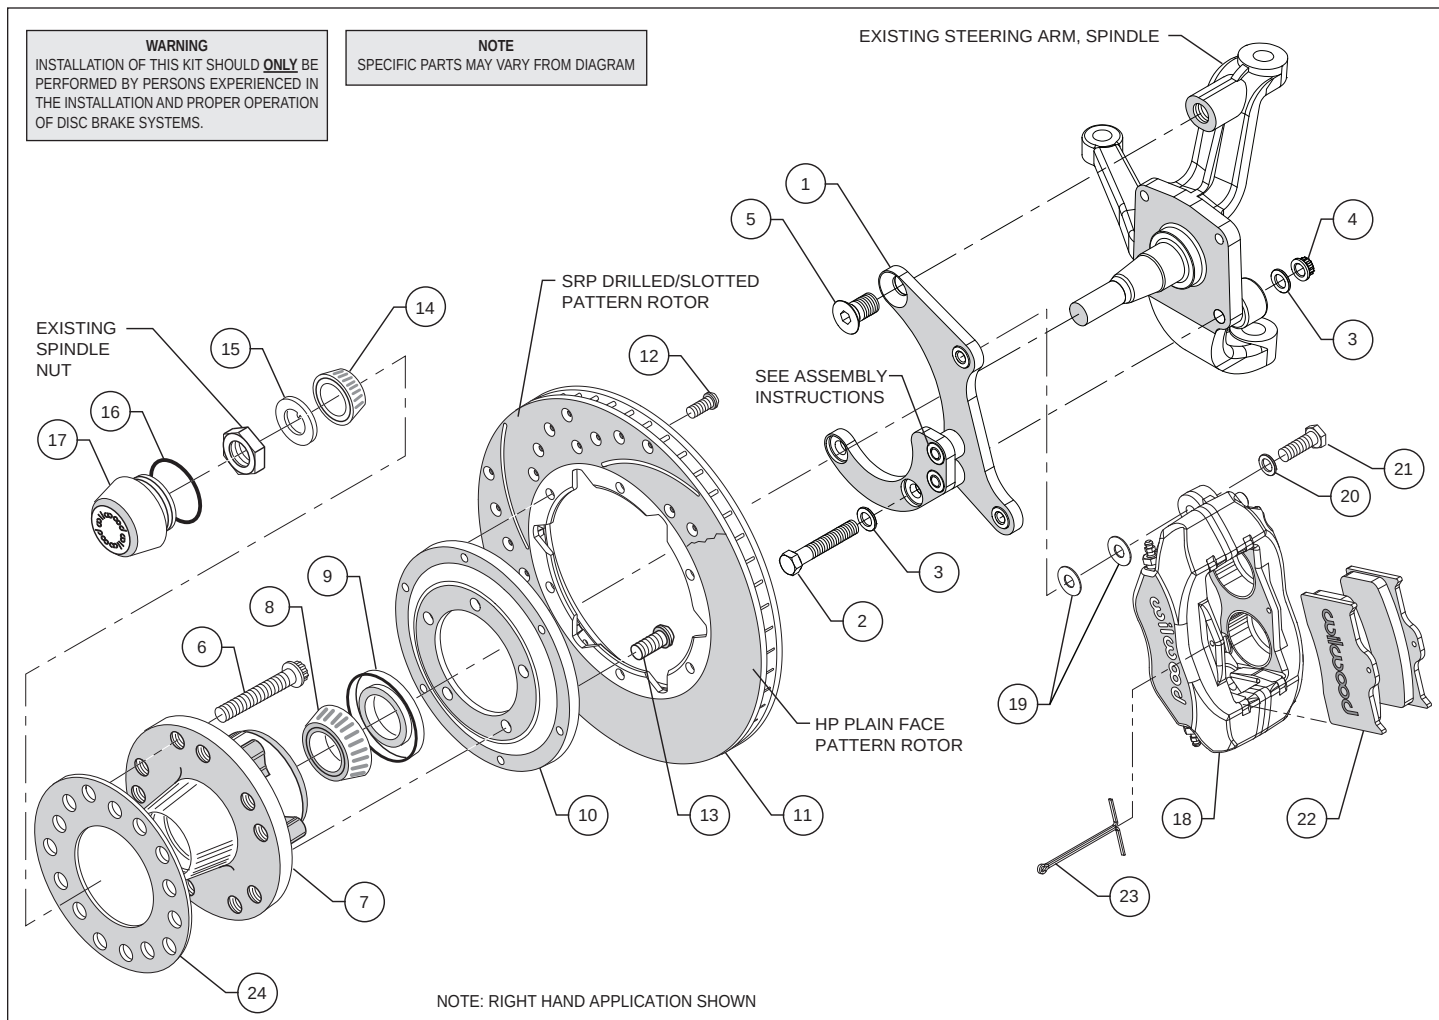
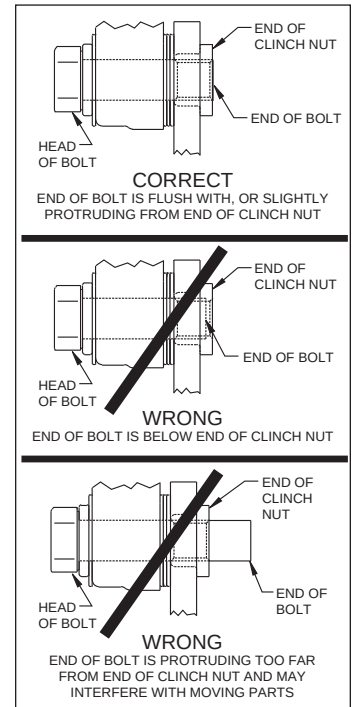

Figure 1. Typical Installation Configuration
Figure 4. Clinch Nut Engagement Diagram
Assembly Instructions (numbers in parenthesis refer to the parts list and Figure 1 on the preceding pages): **CAUTION:** *All mounting bolts must fully engage clinch nuts.* Be sure to check that all bolts are either flush or protruding through flanged side of clinch nut after shimming, Figure 4.
- The caliper mounting bracket (1) has been assembled at the factory for alignment purposes. Loosen the two bolts that secure the brackets together so that the bolts are hand tight only, this will enable the bracket assembly to be adjusted to accommodate various spindle tolerances during assembly. Align bracket with the two lower holes on the spindle face and attach using bolts (2), washers (3), and secure using lock nuts (4), as shown in Figure 1 and Photo 1. Install bolt (5) through top of bracket and into the spindle. Temporarily tighten the mounting bolts. Ensure that the flanged heads of the clinch nuts in the bracket are facing outboard, Photo 1. **NOTE:** *The bracket must fit squarely against the mounting points on the spindle.* Inspect for interference from casting irregularities, machining ridges, burrs, etc. Torque lower bolt nuts to 47 ft-lb. Remove the upper bolt, apply red *Loctite*® 271 to threads, and torque to 140 ft-lb. Remove one at a time the bolts that secure the bracket assembly to each other, apply red *Loctite*® 271 to the threads and torque to 40 ft-lb.
- Install the grease seal (9) by pressing into the backside of the hub (7), flush with the end of the hub, Photo 3.
- Orient the rotor (11) and the rotor adapter (10) as shown in Figure 1 and Photo 4. Attach the rotor to the adapter using bolts (12). Using an alternating sequence, apply red *Loctite*® 271 to the threads, and torque to 25 ft-lb.
- Mount the adapter/rotor assembly (10/11) to the hub (7) using bolts (13), as shown in Figure 1 and Photo 5. Using an alternating sequence, apply red *Loctite*® 271 to the threads, and torque to 55 ft-lb.
- Pack the small outer bearing cone (14) with high temperature disc brake bearing grease and install into hub (7). Slide the hub/rotor assembly onto the spindle. Secure using spindle washer (15) and OEM spindle nut, Photo 6. Adjust bearings by tightening the wheel bearing nut to 60 **in-lbs.** while turning the hub/rotor assembly (10/11). Install saved OEM nut lock (if any) on the wheel bearing nut with one pair of slots in-line with (covering) the cotter pin hole. Back off the adjusting nut lock assembly (or castle nut) one slot and install a new cotter pin (not supplied). **The resulting adjustment should be zero (no pre-load) to 0.003 inch end play.**
- Screw dust cap (17) into hub (7), Photo 7. Friction created by the o-ring (16) on the dust cap keeps it from unscrewing. **NOTE:** The O.D. of the existing OEM spindle washer may be larger than the I.D. of the dust cap not allowing it to seat against the hub face. Therefore, use the spindle washer (15) supplied with the kit instead of the OEM washer.
- NOTE:** Please reference the caution statement at the beginning of the assembly instructions. Mount the caliper (18) onto the caliper mounting bracket (1) using bolts (21) and washers (20), as shown in Figure 1. Initially place two .035" thick shims (19) on each bolt between the caliper and the bracket, Photo 8. Temporarily tighten the mounting bolts and view the rotor (11) through the top opening of the caliper. The rotor should be centered in the caliper, Photo 9. If not, adjust by adding or subtracting shims between the bracket and the caliper. Always use the same amount of shims on each of the two mounting bolts. **NOTE:** The end of each bolt must be flush with or slightly protruding from the head of the clinch nut, as shown in Figure 4. If necessary place spare shims between washer (20) and caliper mounting ear to achieve the proper clinch nut engagement. Once the caliper alignment and clinch nut engagement are correct, remove the bolts one at a time, apply red *Loctite*® 271 to bolt threads, and torque to 40 ft-lb.
- Install the disc brake pads (22) into the caliper, with the friction material facing the rotor (11), and secure in place using cotter pin (23), Photo 10.